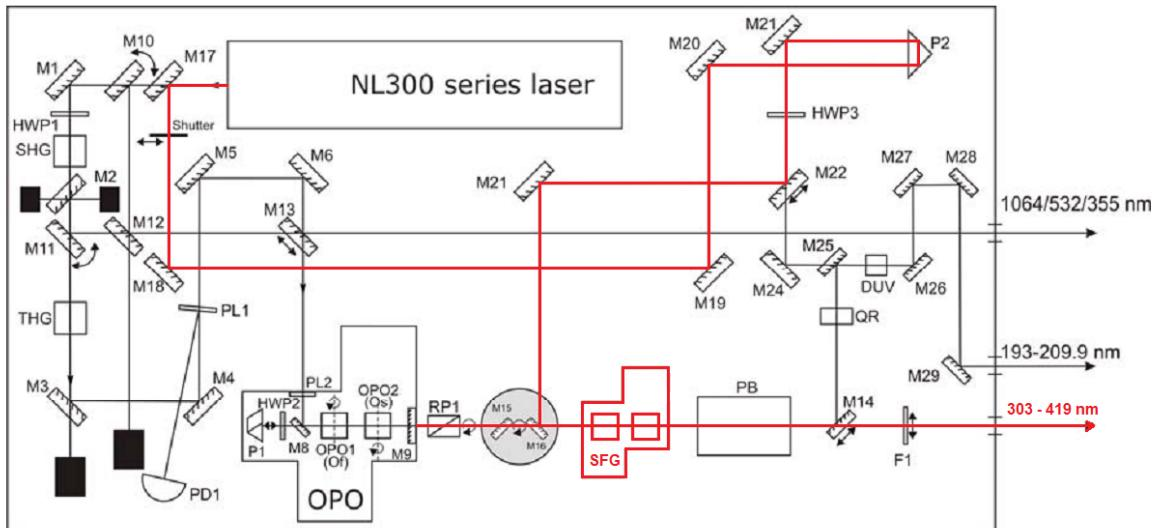

Figure 35 Optical layout of the system with SH/SFG module and 1st harmonic pump beam path marked red
Sum frequency generation (SFG) covers the same wavelength range as SH module (303 nm...419 nm) and is implemented only if higher energies are desired. The main SFG difference from the SH is that only OPO beam is used to pump SH, while for the SFG pumping OPO beam is mixed with a portion of 1st harmonic 1064 nm (Figure 35). Due to this mixture higher energies in 303 nm...419 nm wavelength range can be achieved.
11. Adjust M21 (Figure 35) so that 1st harmonic beam hits the same spot as OPO beam.
12. Now put the target (or IR detection card) after SFG module just before PB prisms (Figure 35).